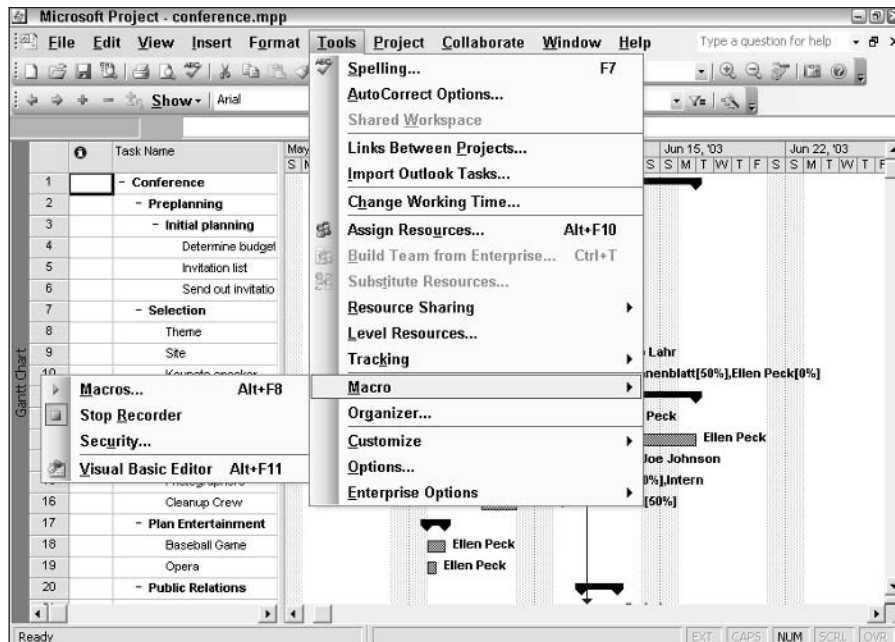

Figure 24-4: When you're finished recording a macro, use the Stop Recorder command.
9. Choose Tools⇨Macro⇨Stop Recorder, as shown in Figure 24-4, to stop recording your macro.